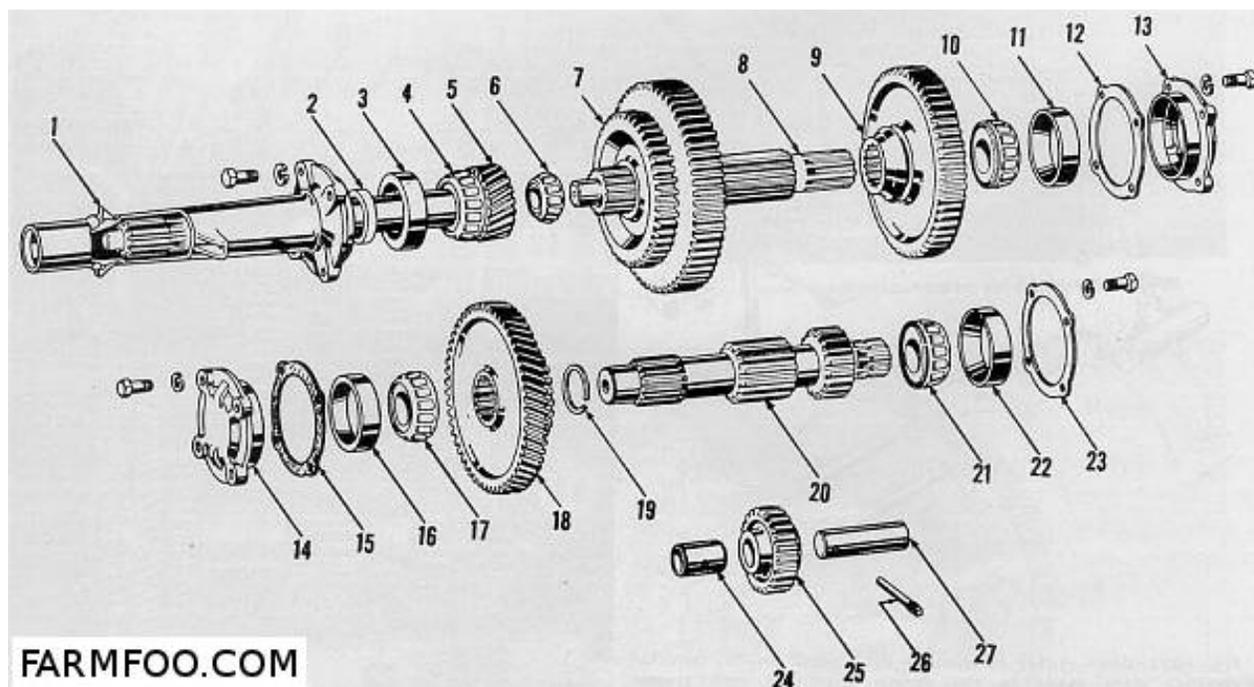

Fig. F055 - Transmission gears and shafts on models 2N-9N.
76. **REVERSE IDLER GEAR.** May be removed after countershaft is out. Unscrew idler shaft lockpin (26-Fig. F055) located on outer left side of transmission housing and remove idler shaft and gear (27 & 25). Rebush gear or renew gear and shaft and reinstall with beveled gear face toward rear of transmission.